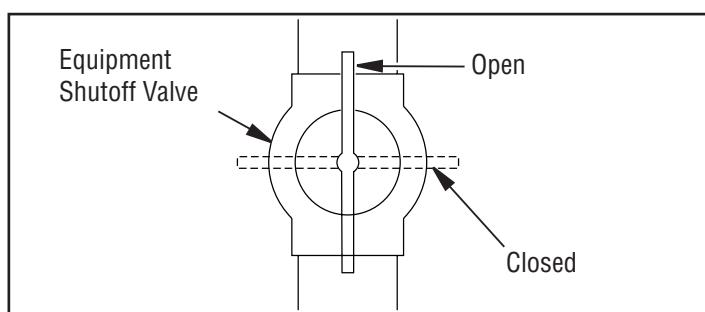

Figure 24 - Equipment Shutoff Valve
1. Close equipment shutoff valve (*see Figure 24*).
1. Open equipment shutoff valve (see **Figure 24, Page 18**).